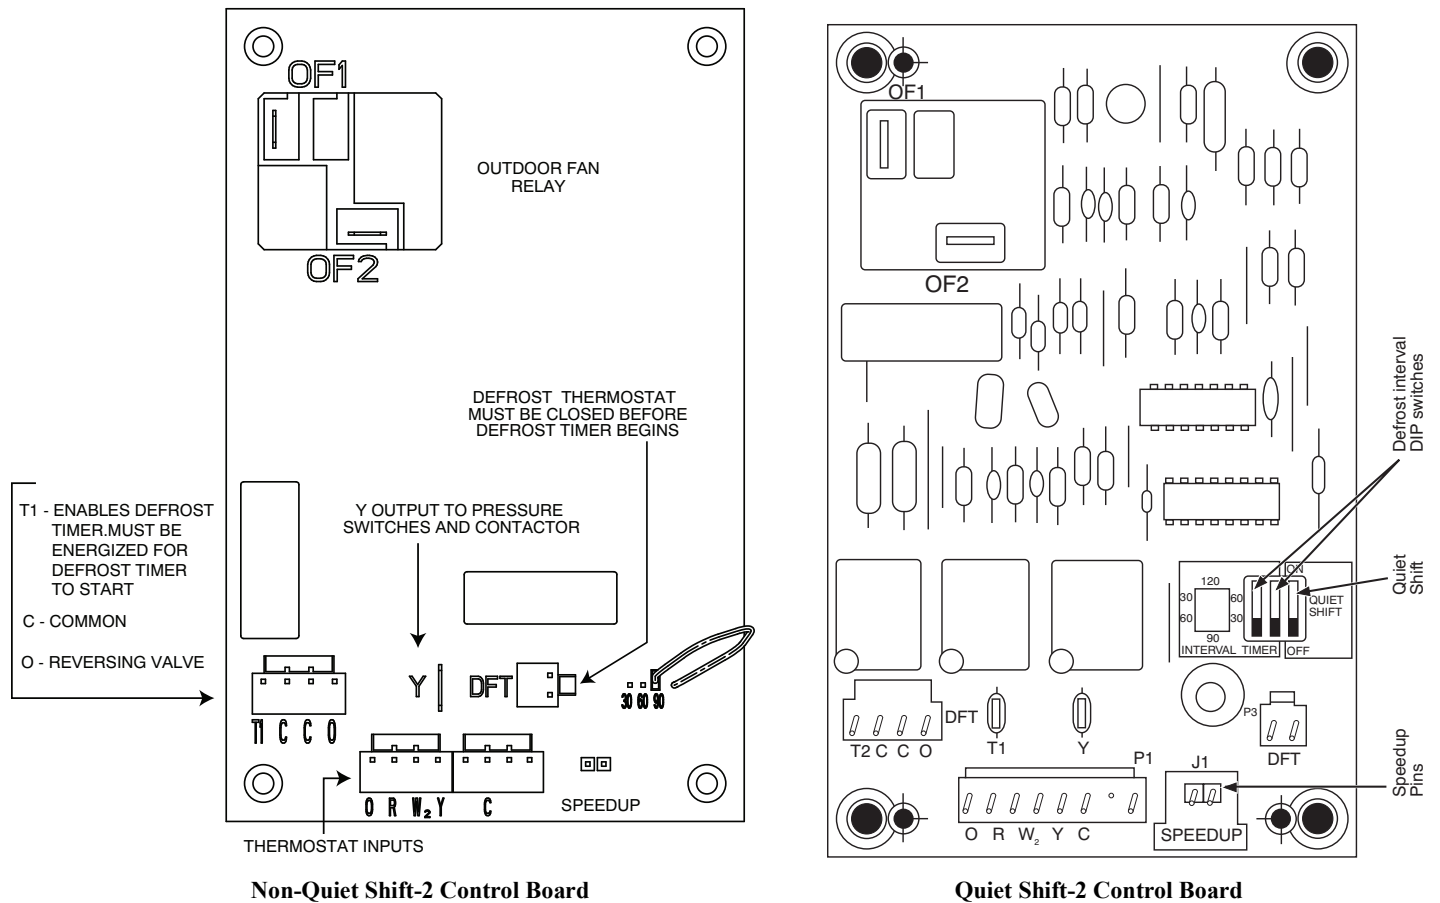

Fig. 12 – Defrost Control
2. Disconnect outdoor fan motor lead from OF2 on control board (see Fig. 12). Tape lead to prevent grounding.